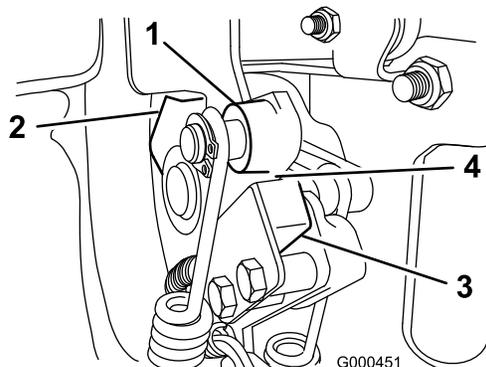

Figure 33
2. Engage traction lever until it contacts neutral stop (Figure 33).
3. Loosen interlock switch mounting fasteners (Figure 33).
4. Place a .032" thick shim between the traction lever and the interlock switch (Figure 33).